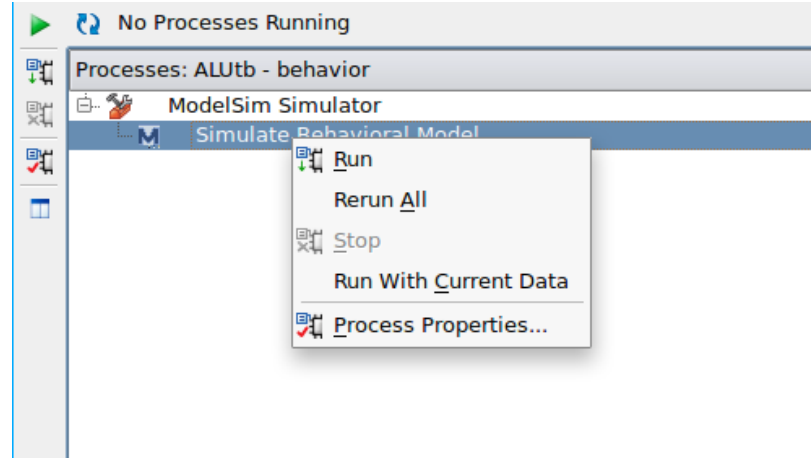

Figure 6: Simulation Properties
- (b) Right click on “Simulate Behavioral Model” below the Hierarchy box and select “Process Properties”, as shown in Figure 6.